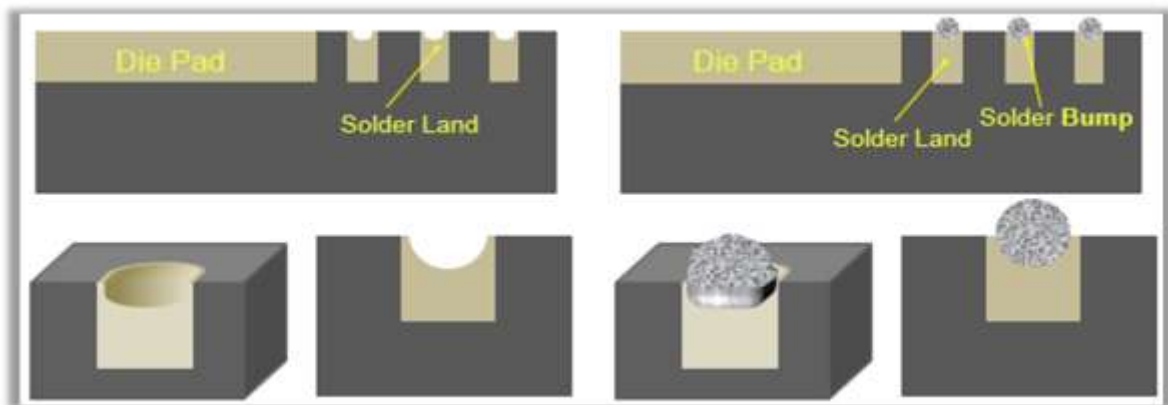

Fig. 3. Augmented solder land pad with trench design.
- The semiconductor package is augmented with trench on its solder land pads, as depicted in Fig. 3